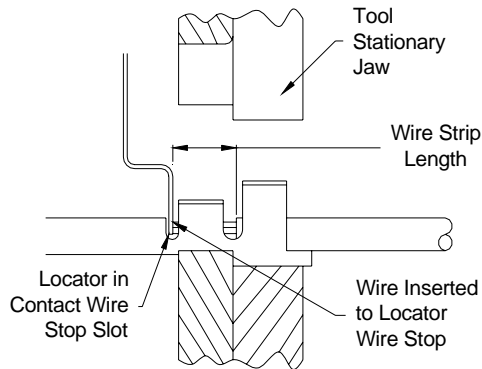

Figure 2
Refer to Figure 2, and proceed as follows:
5. Insert stripped wire into contact insulation and wire barrels until it is butted against the wire stop, as shown in Figure 2.
NOTE *The crimped contact may stick in the crimping area, but may be removed by pushing downward on the top of the locator. (See Figure 2).*